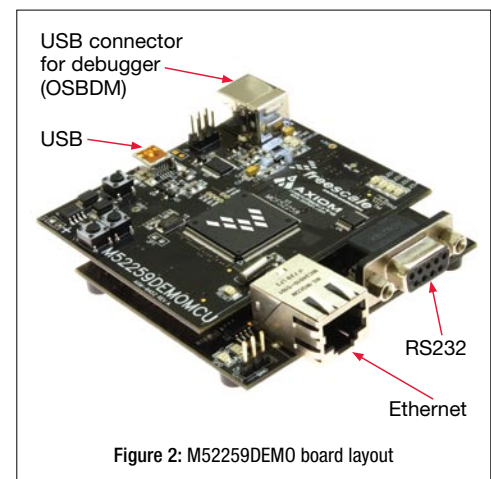

Figure 2: M52259DEMO board layout
1. Make the following connections from the MCF52259 board to the computer. See Figure 1 to the right, or Figure 2 below.